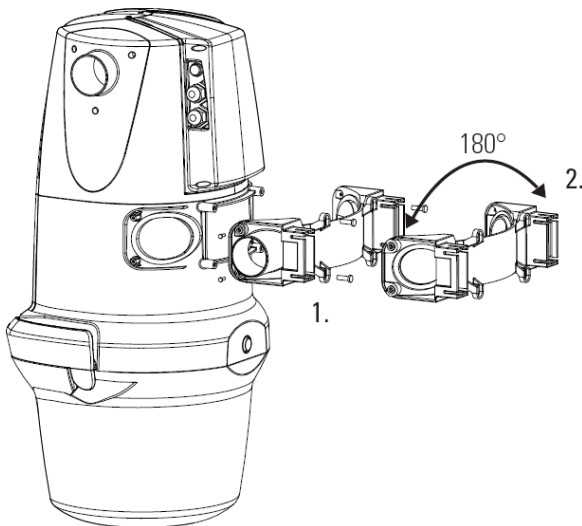

Figure 14
1. Unscrew the screws and remove the reversible support/inlet. (figure 14)
2. Rotate the reversible support/inlet through 180°. (Figure 14)